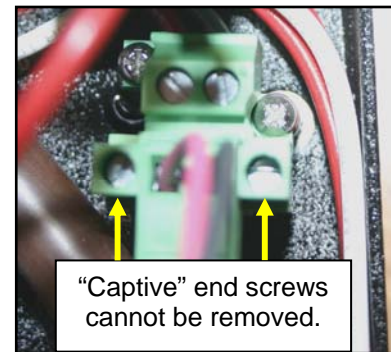

Figure 2. THE INLET SOLENOID MODULE POWER CONNECTOR.
1. Shut off machine power by placing power switch in the OFF (O) position. With the power switch in the off position, unplug the power cord. If possible, move the dehydrator to a work table.
3. Loosen the captive screw at each end of the green power connector. Refer to Figure 2. As captive screws, they cannot be removed. Once the end screws have been loosened, disconnect the green power connector.